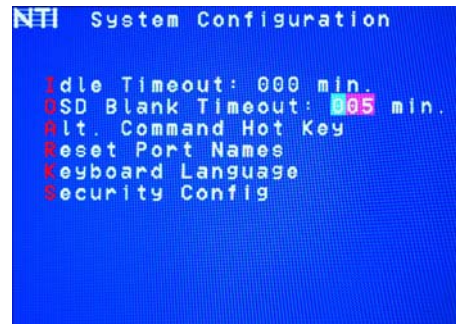

Figure 29- Change the value of OSD Blank Timeout
1. press <O> from the System Configuration menu to display the edit field around the value (see Figure 29)